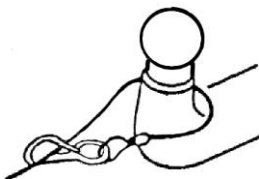

Fig. 3
1. The caravan should be hitched to the tow ball of the vehicle using a ball coupling. The correct method of hitching the coupling to the tow ball is provided in item 5.2. of this instruction manual.
2. The breakaway cable must be hooked up in a way that allows it to apply the caravan brakes if the coupling comes off the tow ball. To do this, make a loop out of the cable, place it beneath the ball, and fasten a snap hook to the cable to prevent it from slipping from the tow ball (Figure 3).